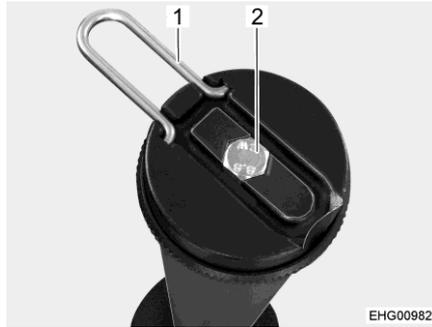

Fig. 37 Table leg (table top removed)
- Open the bracket (Fig. 37,1) and turn the screw (Fig. 37,2) in an anti-clockwise direction.